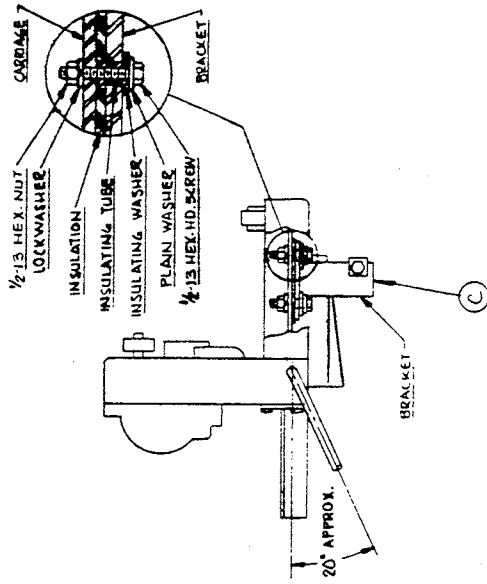

FIG. 3
- C. Install the head mounting bracket (C) which is supplied with the wire feeder, to the head lift plate per Fig. 3 using the hardware and insulation supplied. The head mount is to be electrically isolated from the carriage frame.